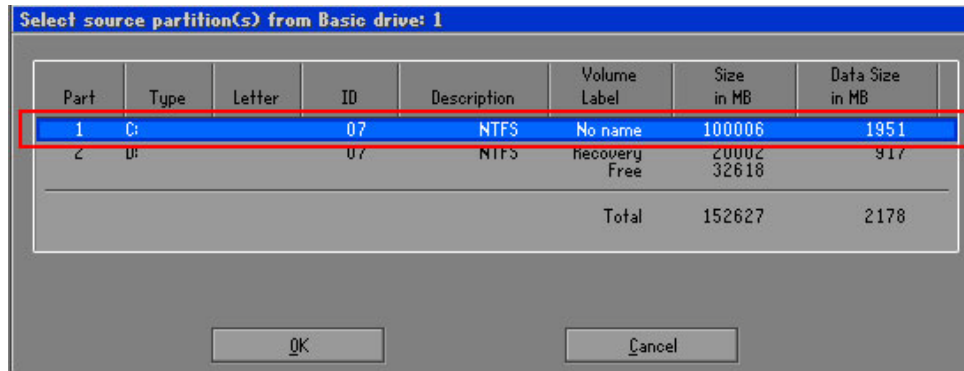

Figure B-15: Select a Source Partition from Basic Drive
Step 6: Select a source partition (Part 1) from basic drive as shown in **Figure B-15**.